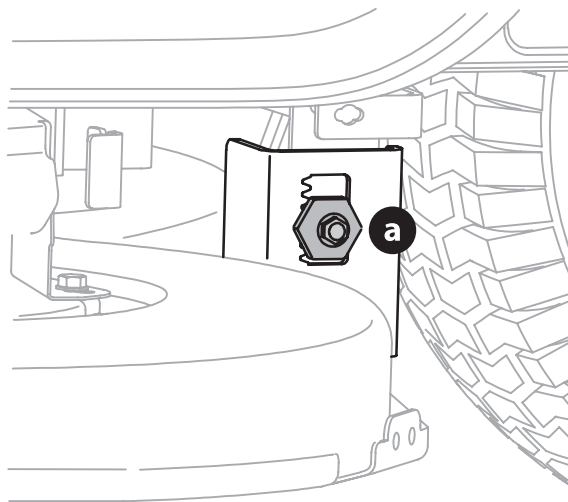

Figure 24
3. Under the rear fenders inside the wheels there is a lift adjustment hex cap screw and gear for each side of the deck (Figure 24).
4. Loosen, but do NOT remove, the hex cap screw (a) on the left deck hanger bracket (Figure 24).
6. When the proper adjustment is achieved, tighten the hex cap screw (a) on the left deck hanger bracket (Figure 24).